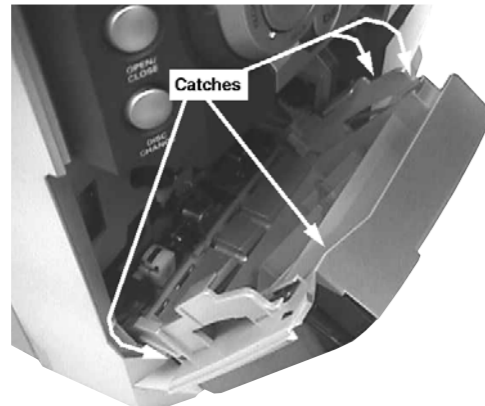

Figure 1
- 1) Uncatch 4 catches along the edge of the Cassette door (pos 5) as shown in figure 1 and 2 to remove the Lens cassette (pos 2).